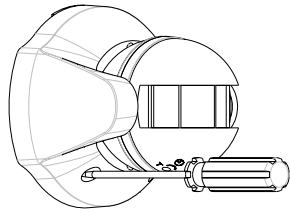

FIGURE 3a
① Front Cover	④ Battery
② PIR Motion Sensor	⑤ Rear Cover
③ Time-off Knob	⑥ Tamper Switch
1. Using a Phillips screwdrivers to detach the rear cover. (FIGURE 3a)